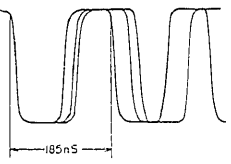

Fig. 4-110
(6) Deviation Adjustment (Figs. 4-110, 4-151)